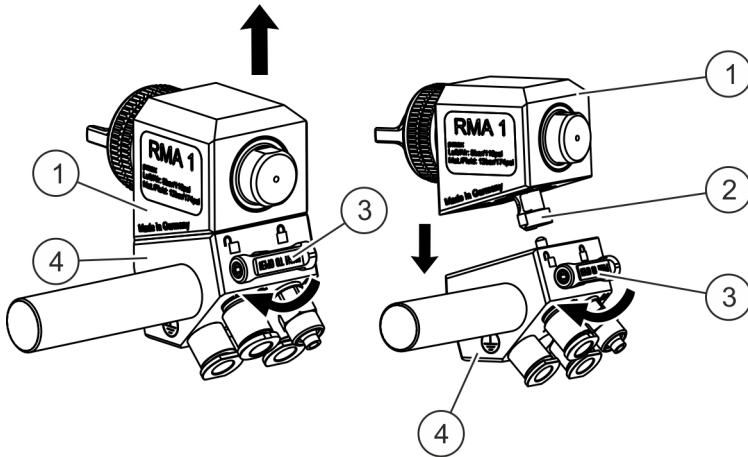

Fig. 4: Removing the main elements - plugged in design
1. ➞ Turn the lever (Fig. 4/3) to the unlocking position.
2. ➞ Press the lever (Fig. 4/3) in and pull the main element (Fig. 4/1) off the adapter (Fig. 4/4).
2. ➞ Insert the main element (Fig. 4/1) with the clamp bolt (Fig. 4/2) into the adapter (Fig. 4/4) and allow them to lock into place.
3. ➞ Turn the lever (Fig. 4/3) to the locking position.